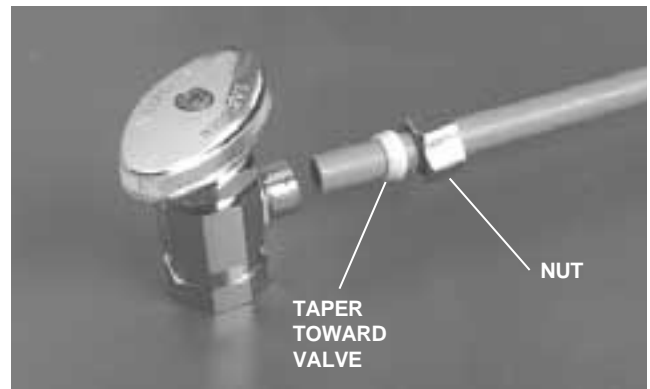

FIGURE 32
2. Remove the nuts from the manual shutoff valves, then discard the brass compression sleeves. Slide the nut and a new plastic compression sleeve onto both gray tubings (see Figure 32). Be sure the tapered end of the compression sleeve is pointed toward the manual shutoff valve. Firmly tighten each nut.